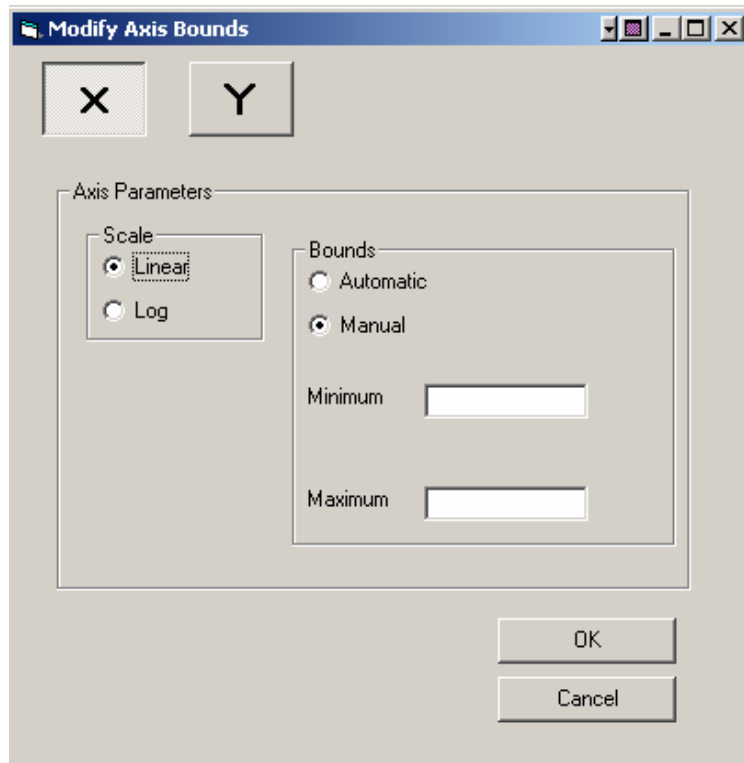

Figure 4-88 Modify Axis Bounds
- Click the *Modify Axis* button to open the *Modify Axis Bounds* form as shown in Figure 4-88. This allows the user to change the axis limits or switch to a log scale.